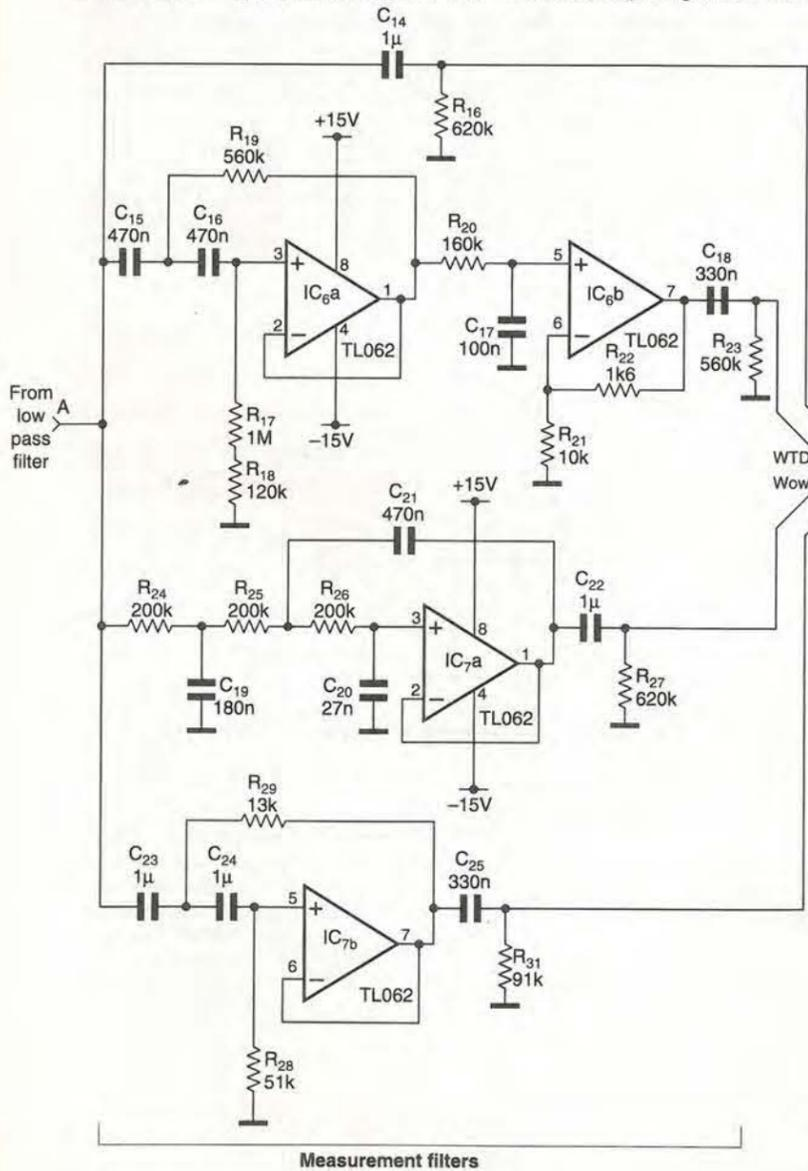

Fig. 4. Flat, weighting, wow and flutter filters, followed by the switched-gain amplifier.
This step is passed in distorted form – due to the differentiation/integration action – either by the weighting network or by one of the other filters, Fig. 4, to the switched gain amplifier. This presents the amplified transient to the rectifier which charges C27 in Fig. 5 to a voltage far greater than that required for full scale deflection of the meter. This voltage takes a long time to decay, which leads to a good deal of thumb twiddling while the meter
**Table 1. Required performance of the weighting network and the calculated response of the circuit used in Fig. 4.**
- Open  $LK_A$  and connect a 50Hz signal of rms amplitude  $V_3$  to  $LK_A$ , which is used for calibration, to the switched gain amplifier  $IC_8$  in Fig. 4.
The circuit of the weighting filter is shown in Fig. 4. It is implemented by a two-pole high-pass filter with a -3dB point at 0.428Hz,  $IC_{6a}$ , followed by a low-pass corner at 10Hz resulting from  $R_{20}$ ,  $C_{17}$  and a high-pass corner at 1.6Hz due to  $C_{18}$  and the parallel combination of  $R_{23}$  and  $R_{31,32}$ .